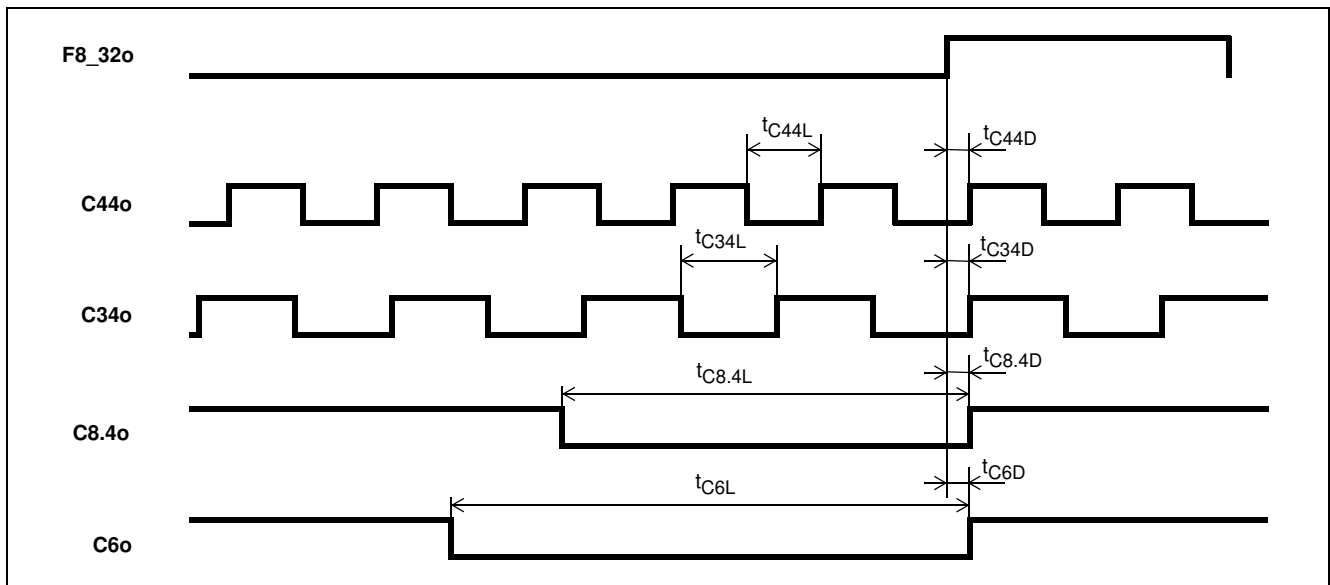

**Figure 30 - SDH Output Timing Referenced to F8/F32o**
**AC Electrical Characteristics\* - SDH output timing (see Figure 30).**